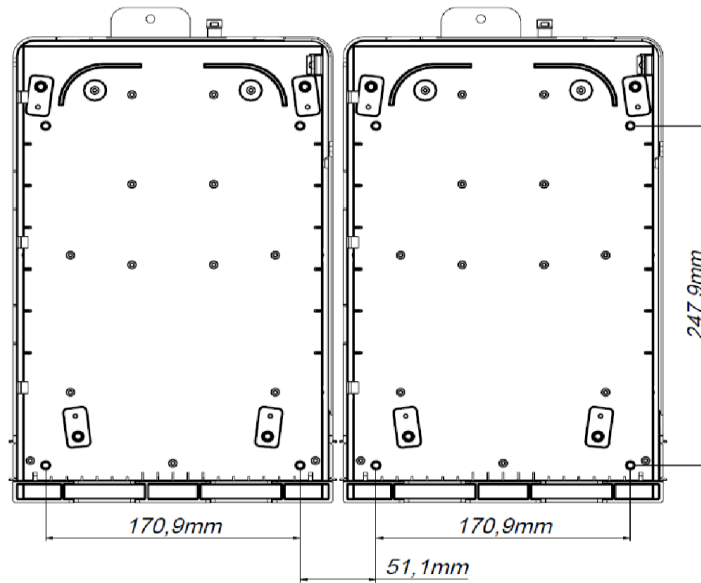

Fig. 8
3.3.2. Install the two enclosures to the wall. Use the following distances for drilling when installing two or more enclosures (Fig. 8).